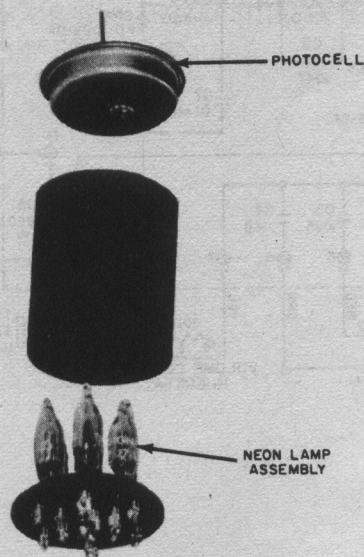

Figure 4. Photocell and Neon Lamp Assembly.
2.07 A photo-conductive cell and neon lamp assembly (Figure 4) activates the electronic common ringer assembly when a line is being rung.